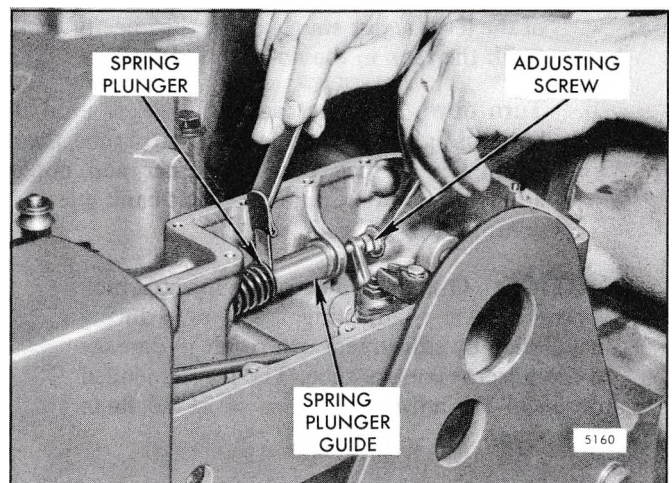

Fig. 2 - Adjusting Governor Gap
5. Insert a .006" feeler gage between the spring plunger and the plunger guide (Fig. 2). If required, loosen the locknut and turn the adjusting screw until a slight drag is noted on the feeler gage.